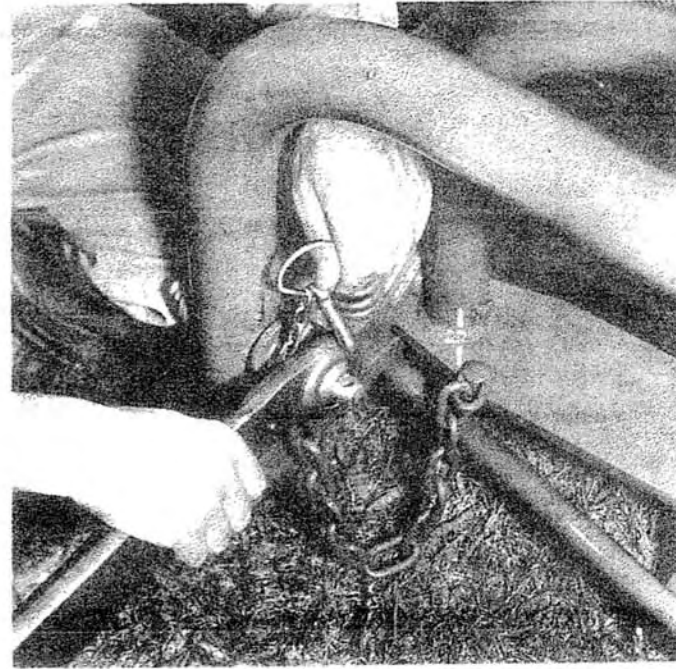

Fig. 44 - Detaching Right Link
4. Remove linch pin, disconnect right link and stabilizer bar (Fig. 44).